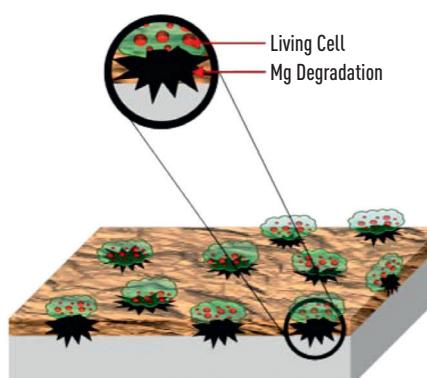

Figure 2. Schematic representation of biodegradation in magnesium in the presence of living cells (*Colloids and Surfaces B: Biointerfaces*, 126(2015) 603-606).
The durability of a HDG coating is now calculated from the minimum average coating thickness in AS/NZS 4680, which also means non-standard HDG thicknesses can be easily assessed for estimated life to first maintenance. This can be done by using Figure 2, where the macro-environment corrosivity zone can be determined from Table 2.
*Figure 2: Calculated corrosivity rates for hot dip galvanizing from AS/NZS 2312.2 can be restated in a graphical format for quick estimates. For example, a coating thickness of 85µm can be estimated to last a minimum of 20 years to a maximum of 40 years in a C4 environment.*